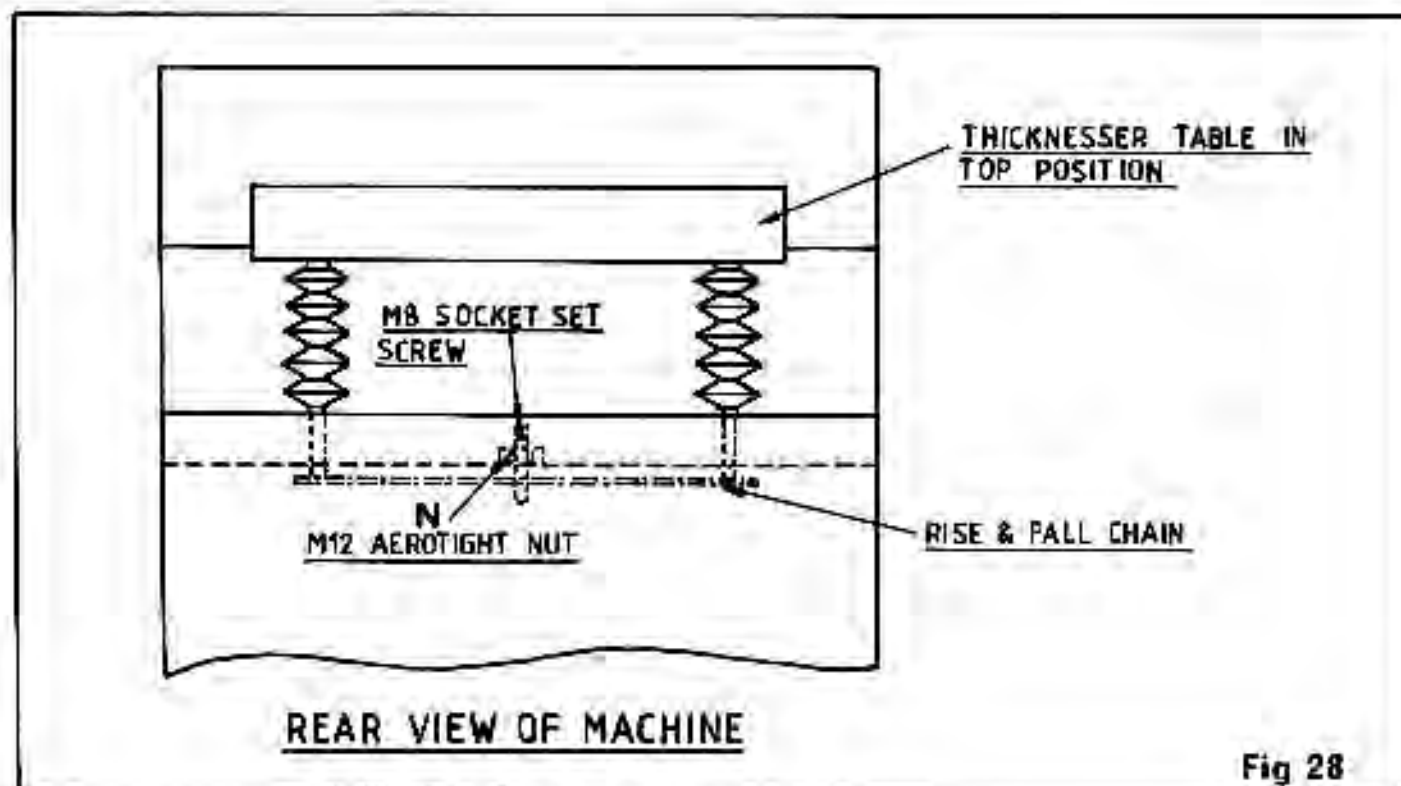

Fig 28
- 3) Loosen M12 aerotight nut "N" FIG.28 and turn M8 grub screw.